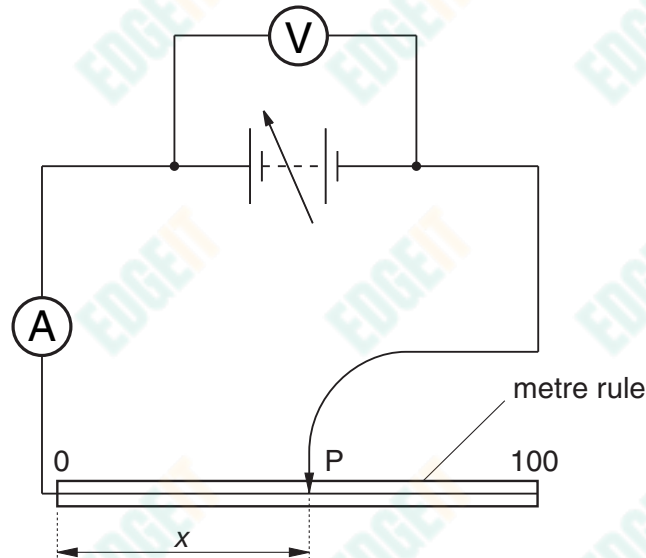

Fig. 1.1
- (a)** Set up the circuit shown in Fig. 1.1. Use a crocodile clip to attach a connecting lead to the bare wire at the zero end of the metre rule. The crocodile clip should be attached as close as possible to the zero mark on the rule.